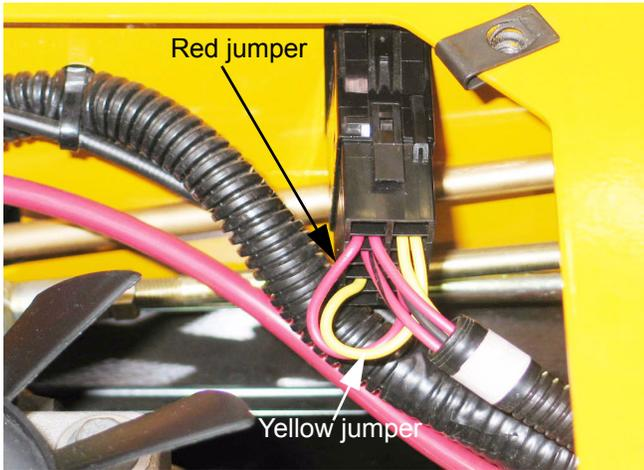

Figure 28.19
28.19. Jumper wires connect... : See Figure 28.19.